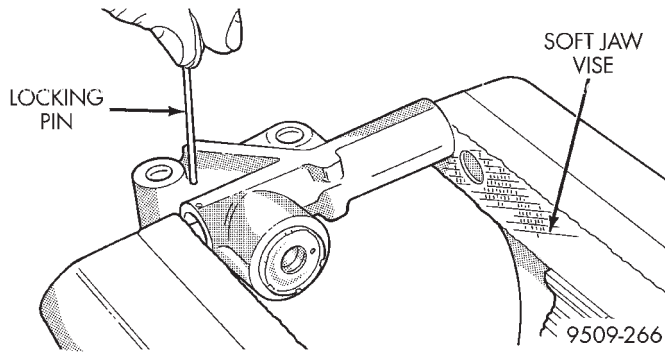

Fig. 54 Compressing Timing Belt Tensioner
(1) When tensioner is removed from the engine it is necessary to compress the plunger into the tensioner body.
(2) Place the tensioner into a vise and slowly compress the plunger (Fig. 54).